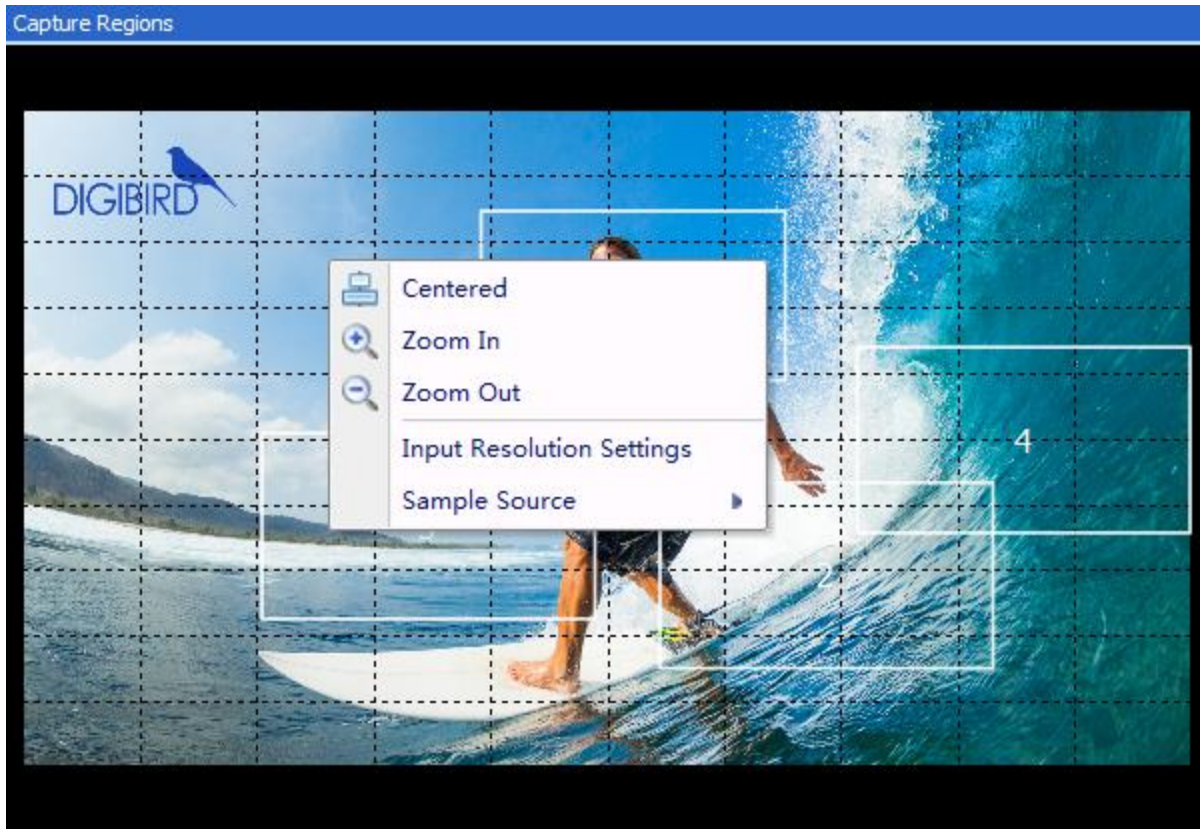

Figure 3.6.1B
- Right click the blank area of the Capture Regions window, and the context menu will appear (Figure 3.6.1B)